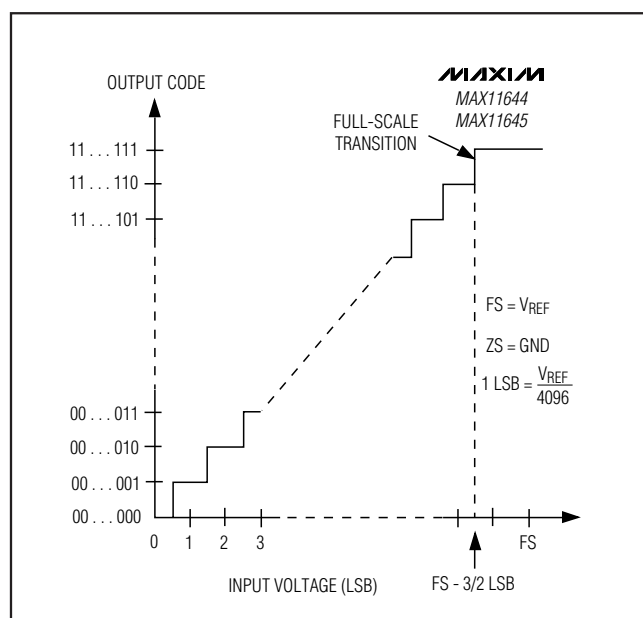

Figure 12. Unipolar Transfer Function
Output data coding for the MAX11644/MAX11645 is binary in unipolar mode and two's complement in bipolar mode with 1 LSB = ($V_{REF}/2^N$) where N is the number of bits (12). Code transitions occur halfway between successive-integer LSB values. Figures 12 and 13 show the input/output (I/O) transfer functions for unipolar and bipolar operations, respectively.